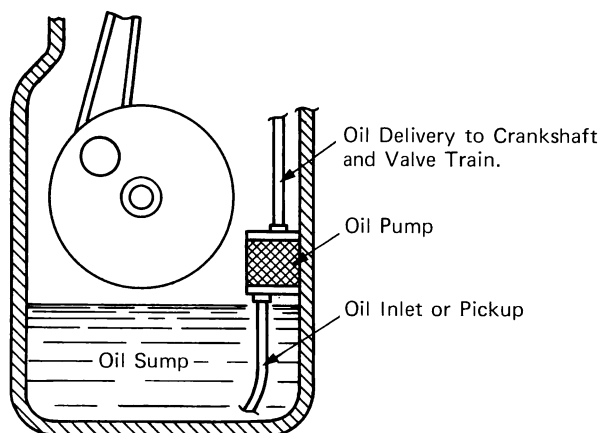

Fig. 14-5 Wet sump oil system
**Wet Sump.** Most four-stroke engines, including the one in your car, use a wet sump lubrication system. The heart of this setup is a single oil pump and an oil reservoir at the bottom end of the engine. The pump draws oil from the reservoir and pumps it through lines and passages to the areas where oil must lubricate the various moving parts of the engine (Fig. 14-5).